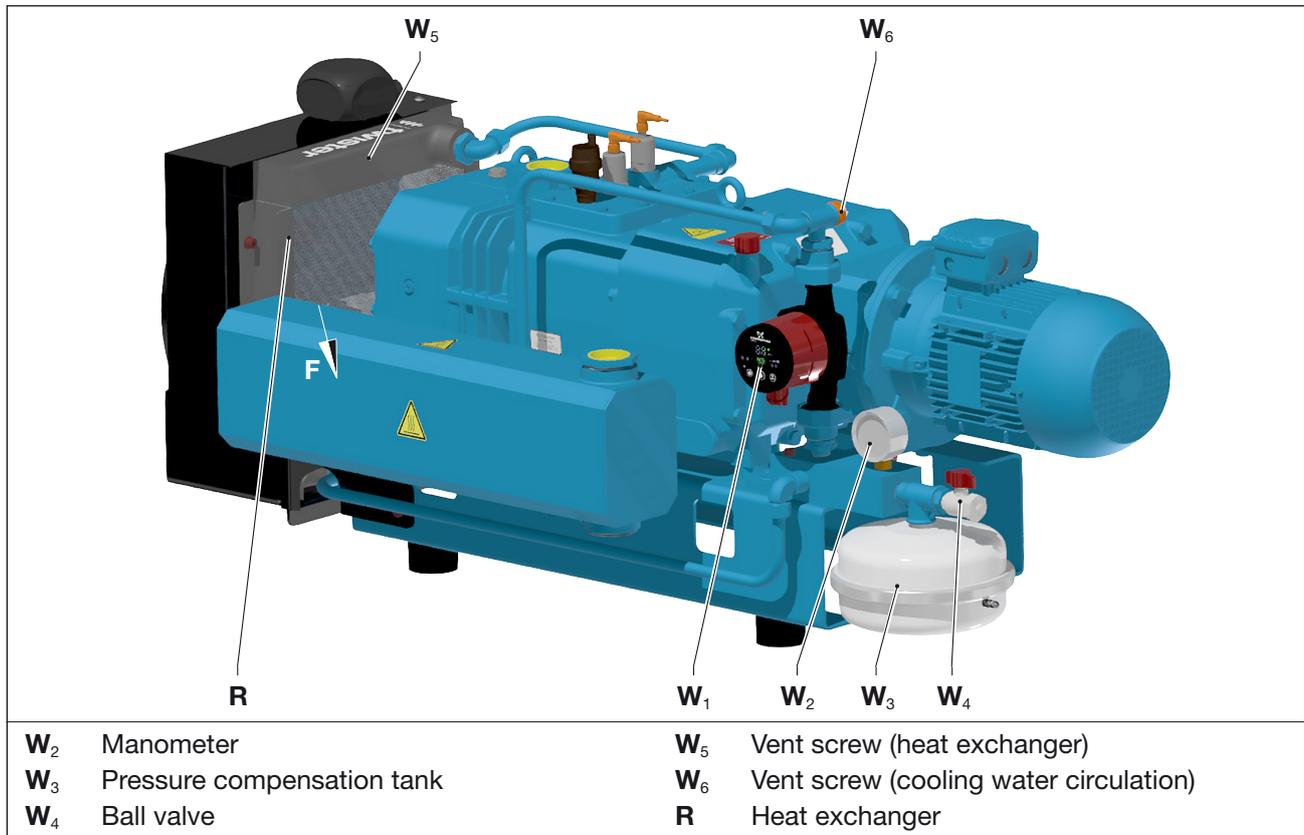

Fig. 12 Circulation cooling
- Regularly check the orifices for the cooling air inlet (Fig. 3/E) and the protective grid of the fan (Fig. 12/V_A) and clean them by blowing off.
- It is also required regularly to inspect the cooling air outlet (Fig. 12/F) on the grid of the heat exchanger (Fig. 12/R) and to clean it by blowing off.
- Check the filling pressure on manometer (Fig. 12/W₂) and refill cooling water if necessary. The filling pressure may not exceed **0.6 bar (g)** and may not get below **1.2 bar (g)**.
- a) Release the vent screw (Fig. 12/W₆) on the cooling water circuit.
- b) Fill the cooling water circuit with water-Glysantin-mixture (ratio 70:30) on the ball valve (Fig. 12/W₄), until the cooling water escapes through the vent screw.(Fig. 12/W₆).
Close the vent screw (Fig. 12/W₆)
Check pressure by manometer (Fig. 12/W₂).
- a) Open ball valve (Fig. 12/W₄), release vent screws (Fig. 12/W₅, W₆) and drain old cooling water in a suitable container.
- b) Fill air in the pressure compensation tank (Fig. 12/W₃) to 0.5 bar(g).
- c) Release the vent screws on the heat exchanger (Fig. 12/W₅) and on the cooling water circuit (Fig. 12/W₆).
- d) Fill the cooling water circuit with water-Glysantin-mixture (ratio 70:30) on the ball valve (Fig. 12/W₄) until the cooling water escapes through the vent screw.(Fig. 12/W₅) of the heat exchanger.
Close the vent screws (Fig. 12/W₅).
- e) Further fill the cooling circuit until cooling water escapes through the vent screw (Fig. 12/W₆).
Close the vent screws (Fig. 12/W₆).